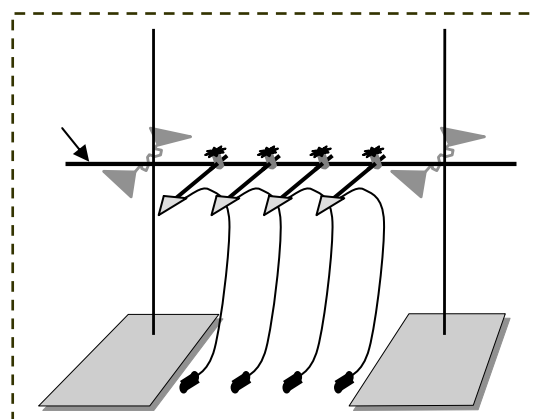

Fig. 2 Stands with 4 probes
3. Fix the mounting rod with the swivel clamp attached EPG probes horizontally, in the example (Figure 2) shown between two ordinary (chemical) stands with standard clamps (not provided by EPG systems). For the Giga-8, screw the two rods together to make one rod with 8 EPG probes. Place probes in the Faraday cage as far to the rear as possible to reduce noise.